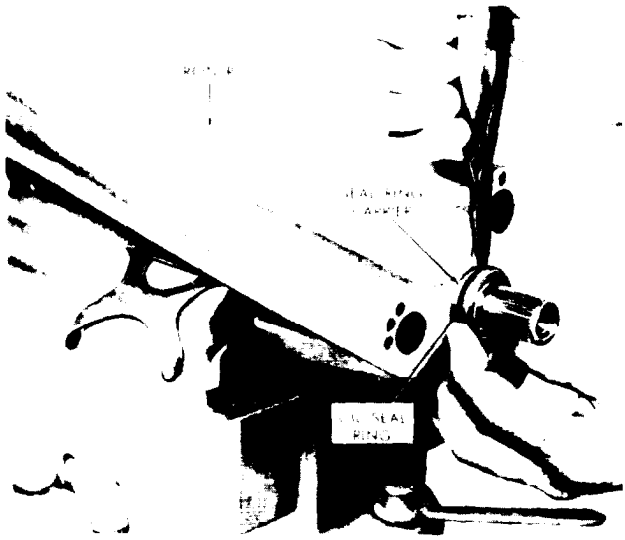

Figure 11D-8. Removing Oil Seal Ring from Carrier
- B. Remove the oil seal ring from the seal ring carrier on each blower rotor with a pair of snap ring pliers J 4880 as shown in Figure 11D-8.